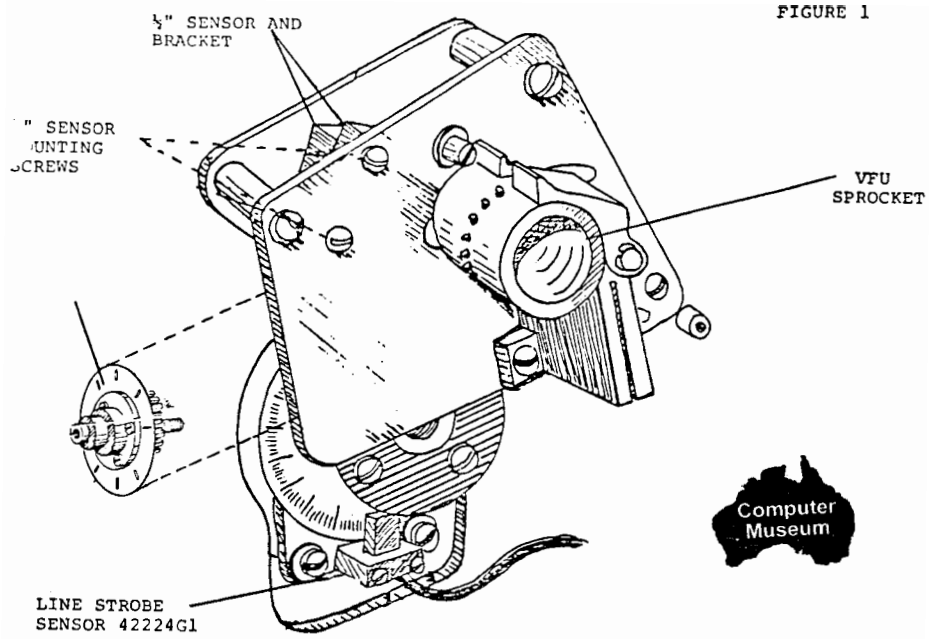

FIGURE 1
3. If necessary, move the sensor adjustment plate (figure 1) to obtain smooth operation. (NOTE: the motor is not speeding up or slowing down; ie, slew is at constant rate.)
5. Loosen the screws holding the dual channel sensor to the mounting plate (figure 1) and rotate the sensor body until LED's 2 and/or 3 and/or 4 flicker. NOTE: this is a sensitive adjustment, move small amount and observe results.
2. Loosen the sensor mounting plate screws (figure 1), and move the assembly until the speed of the system causes the LED's to change.